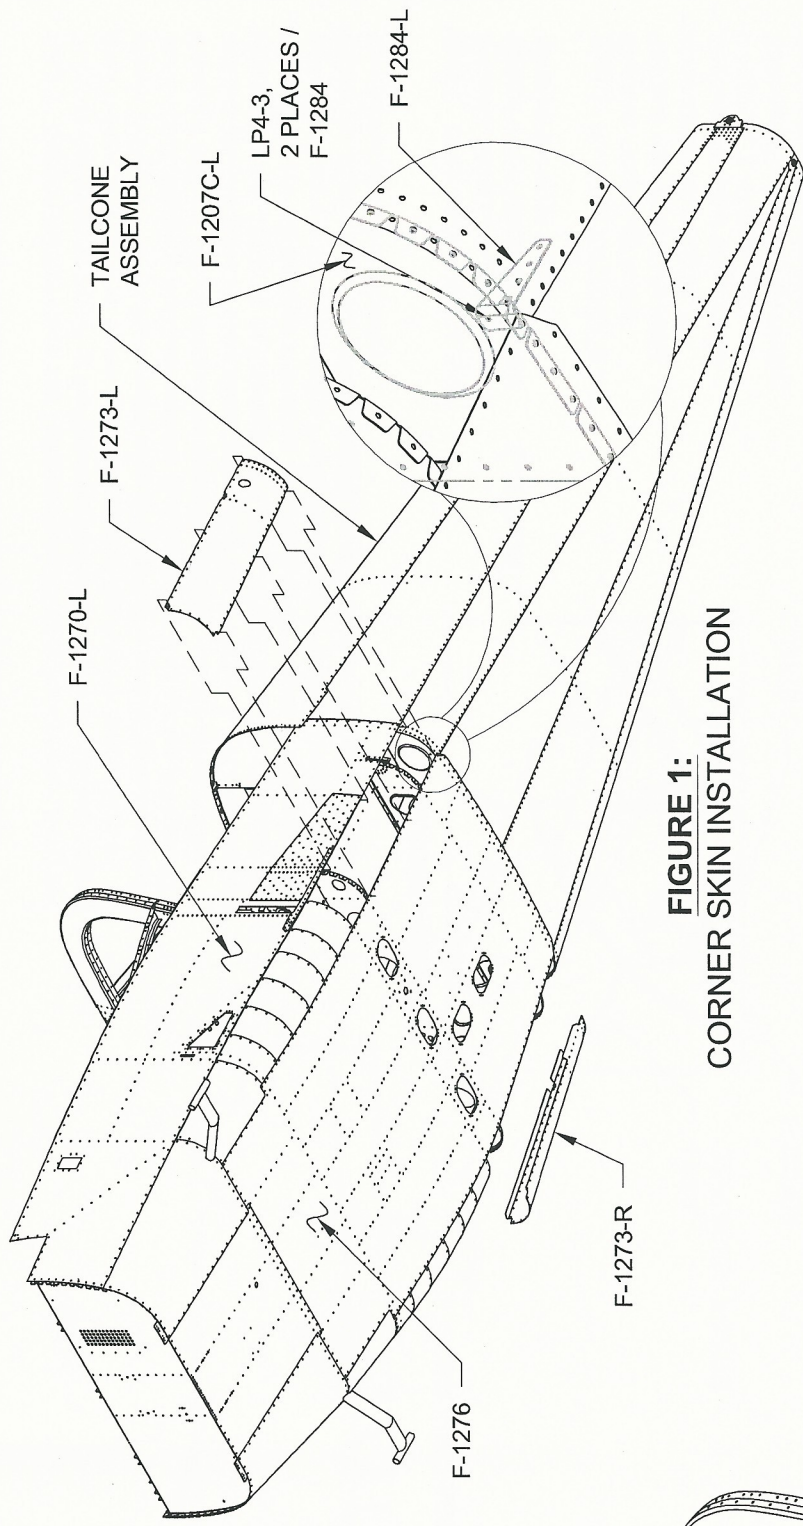

FIGURE 1:
Step 1: Rivet the F-1284-L & -R Shear Clips to the F-1207C-L & -R Baggage Bulkheads as shown in Figure 1.
Step 2: Cleco the F-1273-L & -R Baggage Corner Skin in place. Underlap the F-1270-L & -R Left and Right Side Skins, F-1270A & F-1270B Side Skin Doublers and F-1276 Bottom Skins. Overlap the Tailcone Assembly skins as shown in Figure 1 and 2.